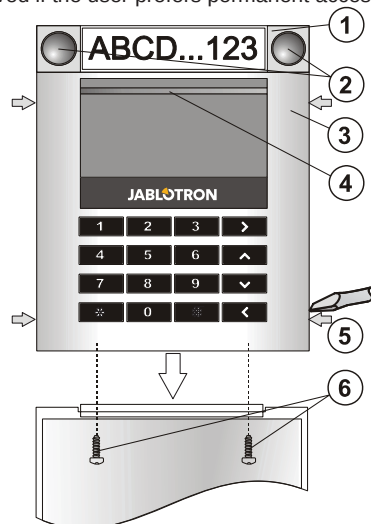

Figure: 1 – control segment; 2 – segment buttons; 3 – keypad module; 4 – backlit activation button; 5 – tabs for opening; 6 – cover screws
1. Gradually press the four tabs (5) on the sides (see Fig 1) and release the keypad from the plastic base.
6. Connect the bus cable to the bus terminals (10).